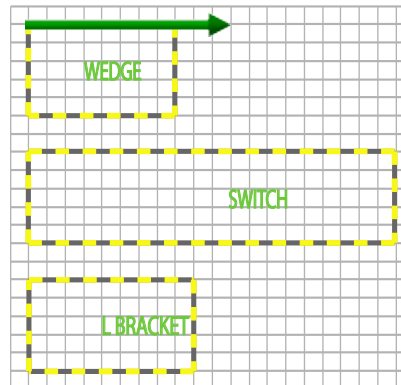

Fig. 12
Step 2. Click a line of **each** rectangle to chain all rectangles, **Fig. 12**.